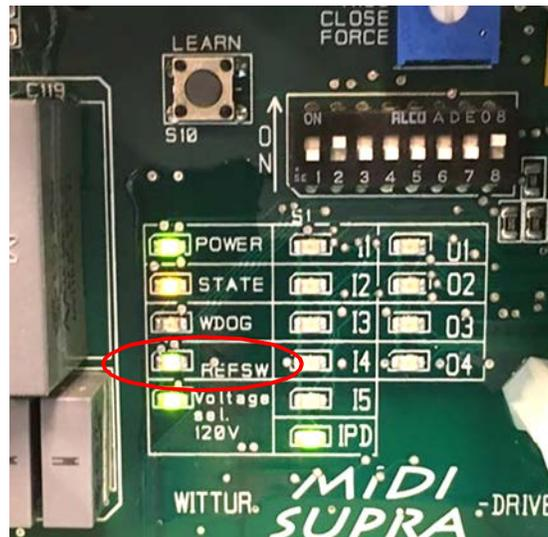

Figure 35 - Activated REFRSW (reference switch) LED
6. Verify that the REFRSW (reference switch) LED activates approximately $1/2$ " before the door is closed. See Figure 35.